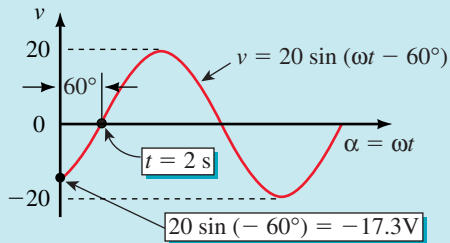

FIGURE 15-32
EXAMPLE 15-13 Demonstrate that $v = 20 \sin(\omega t - 60^\circ)$, where $\omega = \pi/6$ rad/s (i.e., $= 30^\circ/\text{s}$), yields the shifted waveform shown in Figure 15-32.
2. Consider $v = \sin(\omega t - 60^\circ)$. At $t = 0$ s, $v = 20 \sin(0 - 60^\circ) = 20 \sin(-60^\circ) = -17.3$ V as indicated in Figure 15-32.
Summary: Since $v = 20 \sin(\omega t - 60^\circ)$ is a sine wave and since it passes through zero at $t = 2$ s, where $\omega t = 60^\circ$, it represents the shifted wave shown in Figure 15-32.
Solution The phasor has length 20 V and at time $t = 0$ is at -60° as indicated in (a). Now, as the phasor rotates, it generates a sinusoidal waveform, oscillating between ± 20 V as indicated in (b). Note that the zero crossover point occurs at $t = 2$ s, since it takes 2 seconds for the phasor to rotate from -60° to 0° at 30 degrees per second. Now compare the waveform of (b) to the waveform of Figure 15-32, Example 15-13. They are identical. Thus, the phasor of (a) represents the shifted waveform $v = 20 \sin(\omega t - 60^\circ)$.